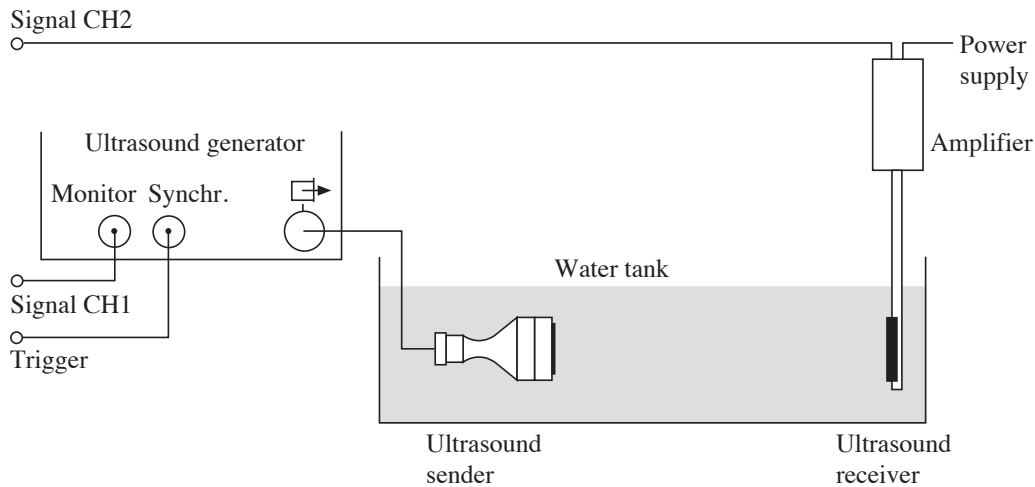

Figure 4.2.2: Setup of the first experiment – run time measurement: the receiver is placed opposite to the transmitter.
An essential cornerstone of image formation in sonography is the propagation of ultrasound in human tissue. This is very similar to that in water; therefore, in the following a tank filled with water is used. The following equipment is at disposal (c.f. Fig. 4.2.2):
The setup of the experiment is shown in Fig. 4.2.2:
- The output “Monitor” of the generator (Fig. 4.2.2) should be connected by a BNC-cable to CH1 and the output “Synchr” to “Ext. trigger” of the measurement box (cf. Fig. 4.2.2).